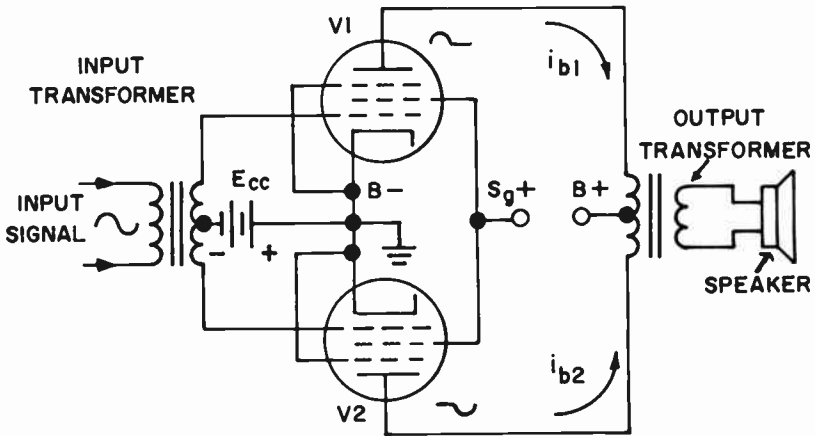

FIG. 9-19. A CLASS B PUSH-PULL PENTODE AMPLIFIER.
Fig. 9-19 illustrates a basic Class B push-pull amplifier. Before the signal is applied, the grid bias cuts off the plate current flow for both tubes. Once the signal is applied, its operation is as follows: During the positive half of the input cycle, the grid of V1 goes positive and the grid of V2 goes negative. V1 will conduct current, while V2 will be cut off. V1 will therefore amplify the positive half of the signal.
**3 PHASE INVERTERS.** A basic requirement of a push-pull amplifier is that each grid is fed a signal that is equal and 180 degrees out of phase with the signal being fed to the other grid. In Fig. 9-19, this requirement is met with the input transformer. The transformer is center-tapped so that equal signals are applied to the grids of V1 and V2. The voltages fed to the two grids are 180 degrees out of phase because the polarities at opposite ends of a transformer are 180 degrees out of phase.